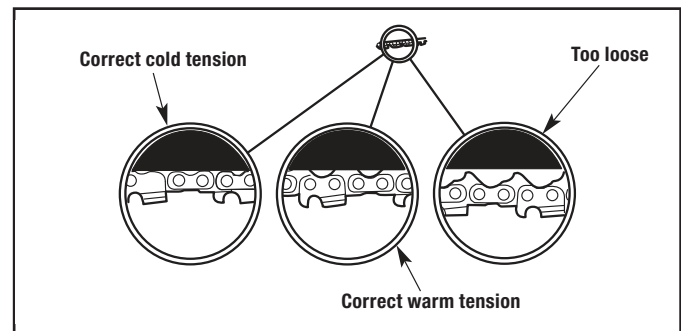

Figure 26
- Cold Chain Tension - The chain should fit snugly against the underside of the guide bar. No sagging should be visible (Fig. 26).
- Warm Chain Tension - The steel blade expands when warm due to use. Approximately 1/16 inch (1.3 mm) of sag should be visible under the guide bar when warm (Fig. 26).